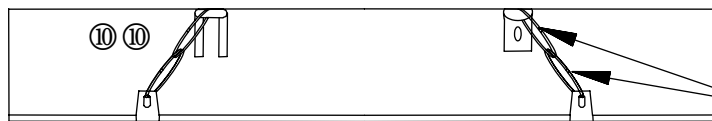

FIGURE 4.
3. Install the zip cable ties (4) (**Fig. 4 below**) through the spare tire bracket (attached to the impact bar, not the spare tire) creating a large loop. Feed the remaining (2) zip cable ties through the fascia tabs then through the large loop {securing the (2) zip cable ties together}.